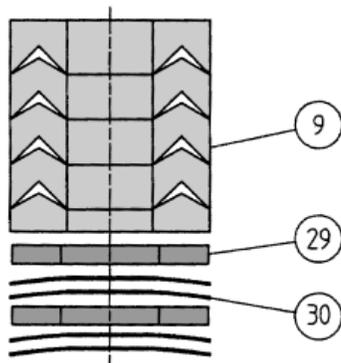

Figure 3. V-Ring Packing Kit
- bonnet - confirm correct orientation - then secure with hex nuts (7). **DO NOT TIGHTEN AT THIS POINT.**
6. Install stem guide (8) and packing kit (9) on the plug stem (4) in the proper order as shown in figure 3, page 6.
7. Carefully press into top of bonnet (6) making sure each part is seated properly.
8. Install packing rings over the stem one at a time. Use the packing follower nut (11) to push each packing ring in individually to avoid jamming.
9. With all required packing (9) in place, tighten the packing follower nut (11) until it becomes stiff. **DO NOT OVERTIGHTEN THE PACKING FOLLOWER (11).**
10. Now tighten hex nuts (7).